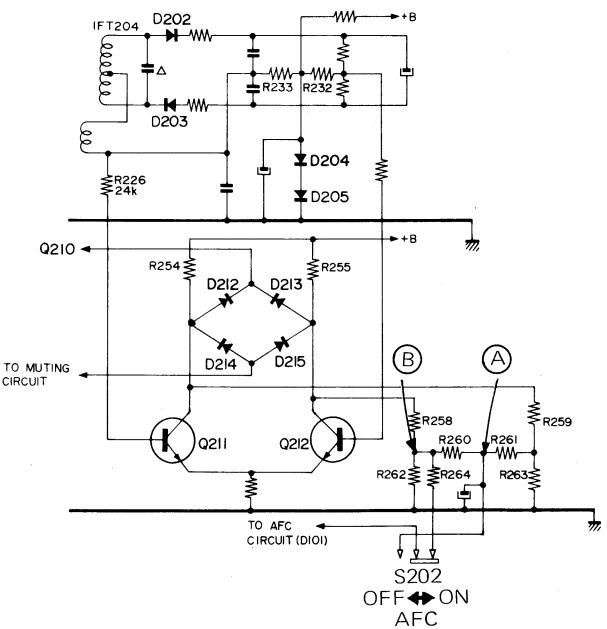

Fig. 1-2
The automatic frequency control employed in the CRF-220 for the FM band is a little different circuitry from ordinary ones as shown in Fig. 1-2. Output signals from the detector diodes are applied to the bases of Q211 and Q212 in the manner of phase-reversal. Hence, the outputs at the collectors of Q211 and Q212 are phase-reversed each other. R260, R261, R262 and R263 in the output circuit of the transistors compose a balanced bridge circuit, and the d-c voltage at the junction of R260 and R261, point (A), is maintained constant at 1.5 volts. This constant 1.5 V d-c is applied to the variable-capacitance diode D101 for biasing through the AFC switch S202 in the AFC OFF mode. When the AFC switch is set to the AFC ON position, control bias is taken from the point (B) and the AFC circuit is activated.